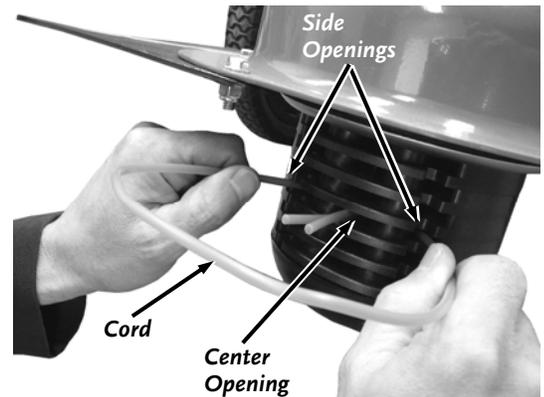

Figure 9
14. Insert the ends of the Cords into the side openings in the Line Plate (**Figure 9**).